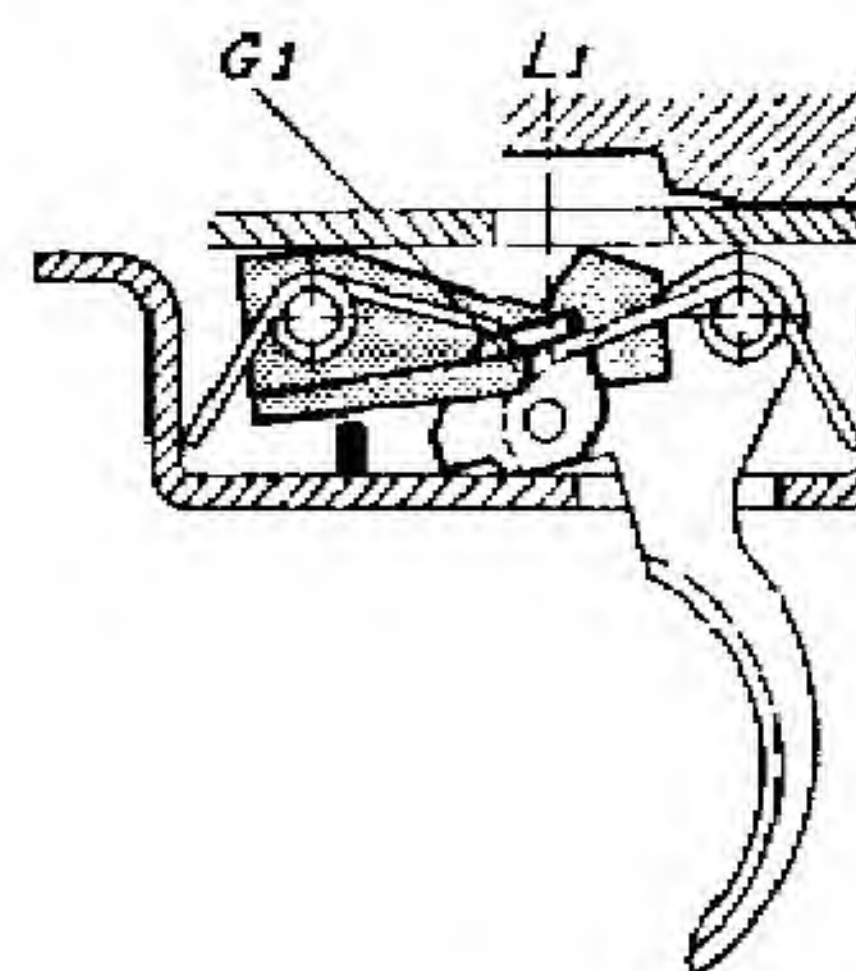

Fig. 15.
The fore arm of the change lever (S) is then in front of the intermediate lever circuit (fig. 15).